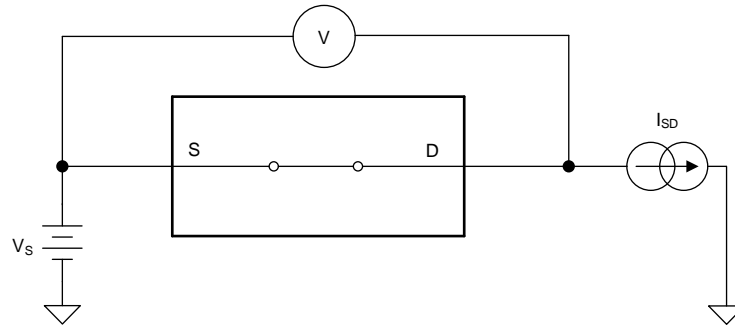

图 16. On-Resistance measurement setup
The on-resistance of a device is the ohmic resistance between the source (S) and drain (D) pins of the device. The on-resistance varies with input voltage and supply voltage. The symbol  $R_{ON}$  is used to denote on-resistance. The measurement setup used to measure  $R_{ON}$  is shown in 图 16. Voltage ( $V$ ) and current ( $I_{SD}$ ) are measured using this setup, and  $R_{ON}$  is computed with  $R_{ON} = V / I_{SD}$ :